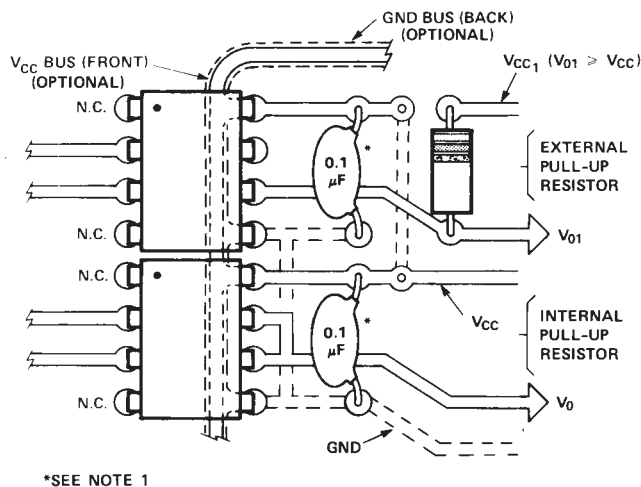

Figure 19. Recommended Printed Circuit Board Layout.
1. Bypassing the power supply line is required with a $0.1 \mu\text{F}$ ceramic disc capacitor adjacent to each optocoupler as illustrated in Figure 19. The power supply bus for the optocoupler(s) should be separate from the bus for any active loads, otherwise a larger value of bypass capacitor (up to $0.5 \mu\text{F}$) may be needed to suppress regenerative feedback via the power supply.
or an external pull-up resistor and required V_{CC} bypass capacitor is given in Figure 19. V_{CC1} is used with an external pull-up resistor for output voltage levels (V_O) greater than or equal to 5 V. As illustrated in Figure 19, an